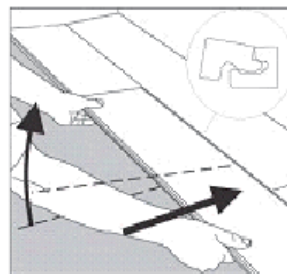

Figure 3
1. Begin the second row with the cut piece from the first row. (Figure 3) If the cut piece is shorter than 300mm, do not use it. Instead, begin with a new board that is at least 300mm in length and allows 300mm between the end joints on the adjacent planks or in the tile pattern of 900/600/300 or 900/450mm.
5. Install the remaining boards and rows in the same manner. (Figure 3 and 4)